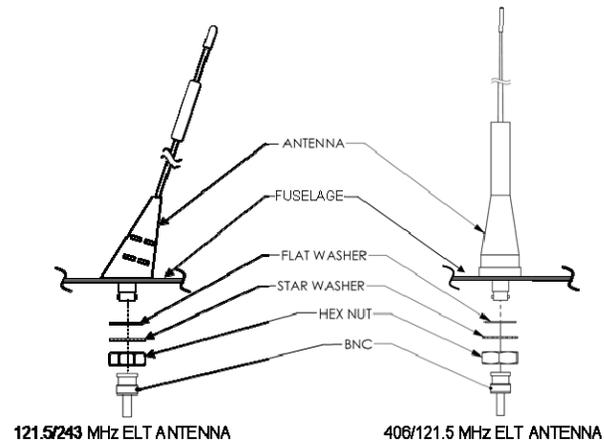

Figure 25-9 Exploded View of ELT Antenna Installations
5. Remove the nut and two washers. See Figure 25-9.